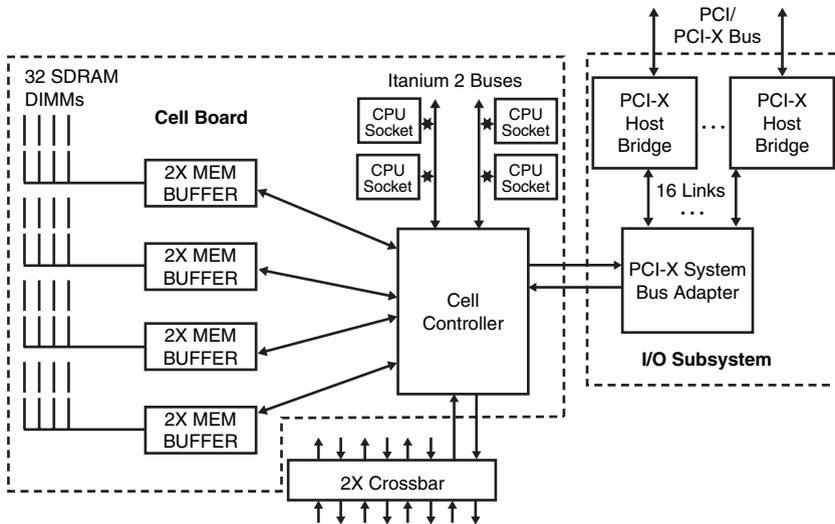

Figure 3.35 The block diagram of a cell board from a Hewlett-Packard sx1000 chipset.
- The sx1000 uses a cell architecture: Each cell comprises a cell controller chip and eight memory buffer chips. Each cell can contain four CPU modules and up to 32 PC133 registered SDRAM modules. The cell controller chip connects directly to the PCI-X system bus adapter, which connects to PCI-X bridge chips. See Figure 3.35.
Figure 3.35 illustrates the block diagram of a four-way or eight-way sx1000 cell board. A four-way cell board uses four standard Itanium 2 processors, while an eight-way cell board uses four Hewlett-Packard mx2 processor cartridges, each of which contains two Itanium 2 processors along with 32MB L4 memory cache.